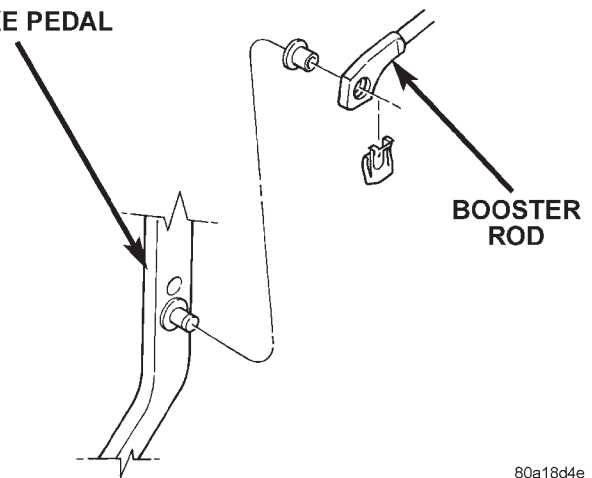

Fig. 21 Push Rod & Clip
- (1) Remove combination valve and master cylinder.
- (2) Disconnect vacuum hose from booster check valve.
- (3) Remove retaining clip that secures booster push rod to brake pedal (Fig. 21) and slide the rod off the pin.